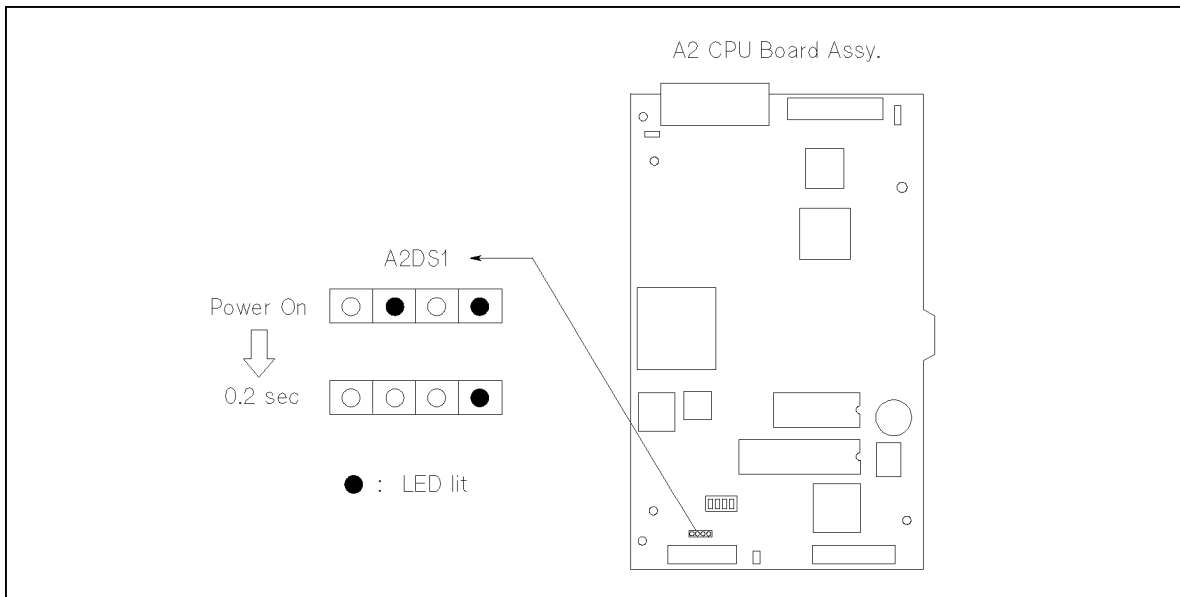

Figure 4-9. CPU Board Assembly LED Light Sequence
2. Check if the LED, “+5V” of DS1 on the A2 CPU Board Assembly lights. Refer to Figure 4-9 for DS1 location.
3. Check if the LEDs light in the sequence shown in Figure 4-9.